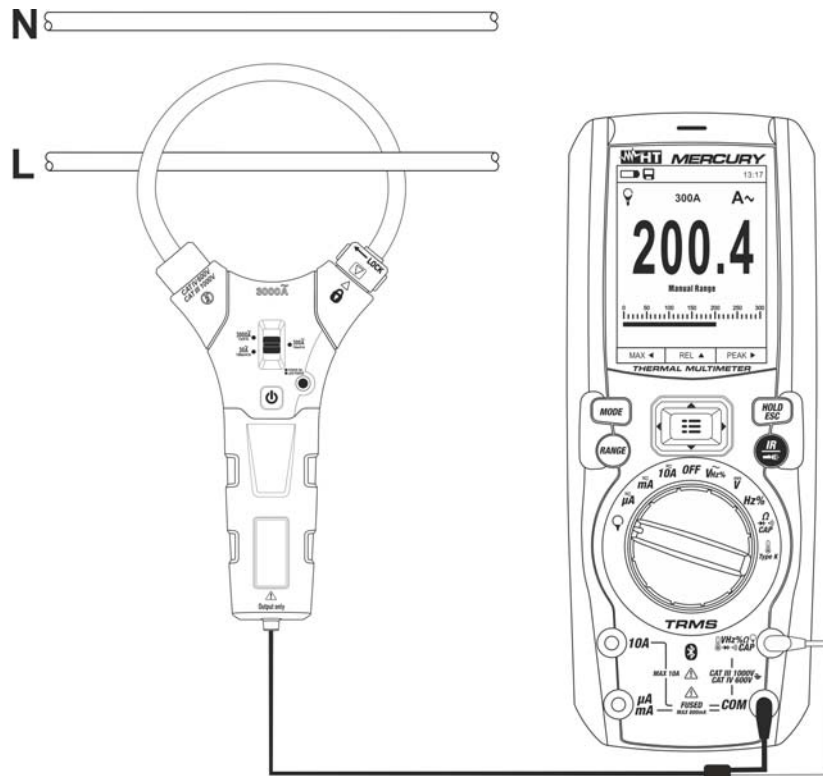

Fig. 30: Use of the instrument for AC/DC current measurement with clamp transducer
6. Insert the cable into the jaws (see Fig. 30). The display shows the value of current.